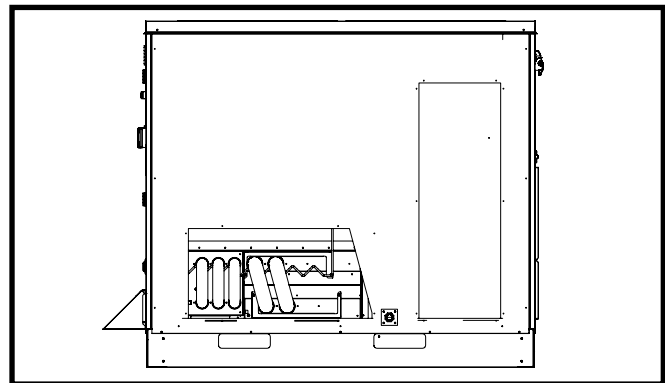

Figure 5. Cutouts Removed (Right-Side View)
2. Cut both return and supply openings following along the tabbed cutouts. **NOTE:** There are tabs on the inside and the outside of the panels. Discard the cut sections when done. These will not be needed. Figure 5.